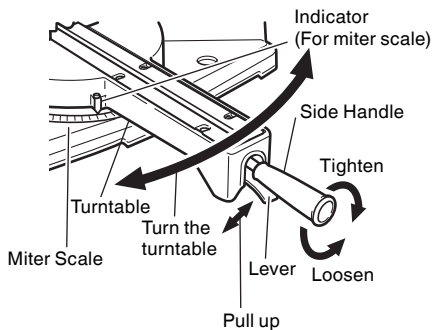
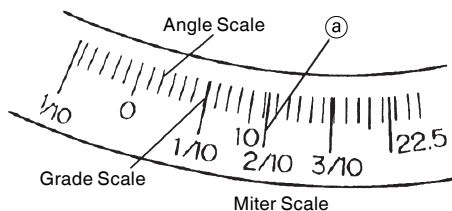

Fig. 30
Fig. 31
- (1) Loosen the side handle and pull up the lever for angle stoppers. Then, adjust the turntable until the indicator aligns with desired setting on the miter scale (Fig. 30).
- (2) Re-tighten the side handle to secure the turntable in the desired position.
- (3) The miter scale (Fig. 31) indicates both the cutting angle on the angle scale and the gradient on the grade scale.
- (4) The gradient, which is the ratio of the height to the base of the triangular section to be removed, may be used for setting the miter scale instead of the cutting angle, if desired (see Fig. 31).
- (5) Therefore, to cut a workpiece at a grade of 2/10, set the indicator to position **a** as indicated in Fig. 31.